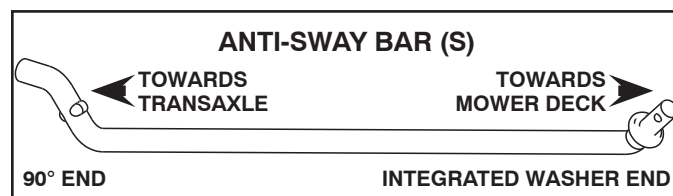

Fig. 27
## 5. INSTALL ANTI-SWAY BAR (S) (IF EQUIPPED) (See Fig. 27 - 29)